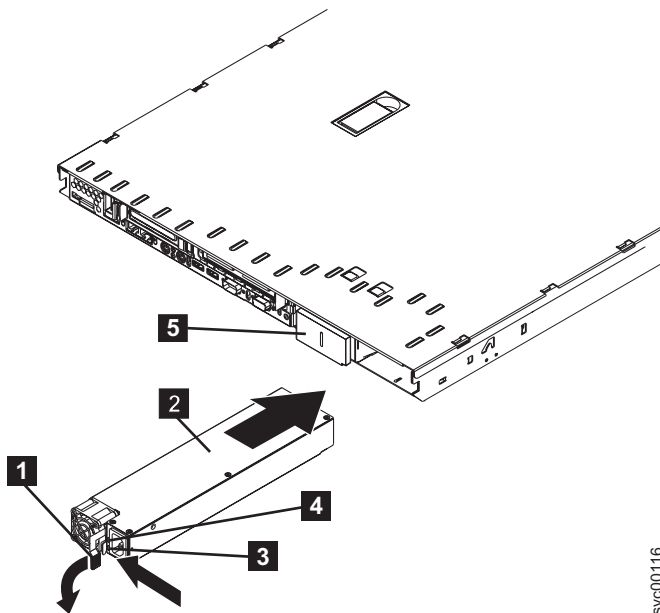

Figure 160. SAN Volume Controller 2145-8F2 power supply
- a. Rotate the handle **1** down on the rear of the power supply to the open position, and then slide the power supply forward into the power-supply bay, as shown in Figure 160.